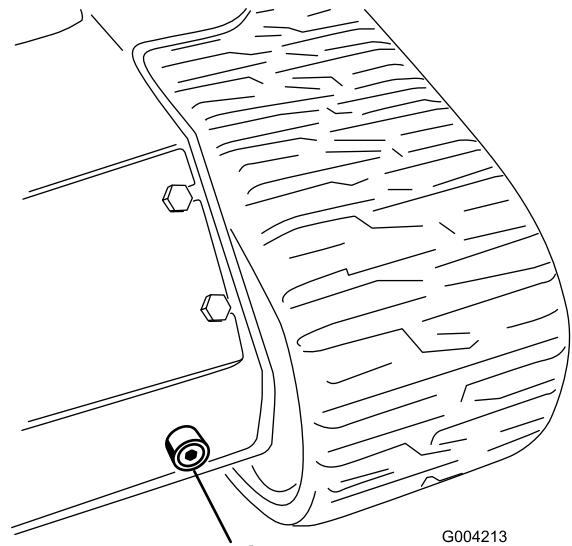

Figure 56
7. Remove the drain plug and allow the oil to drain into the pan (Figure 56).